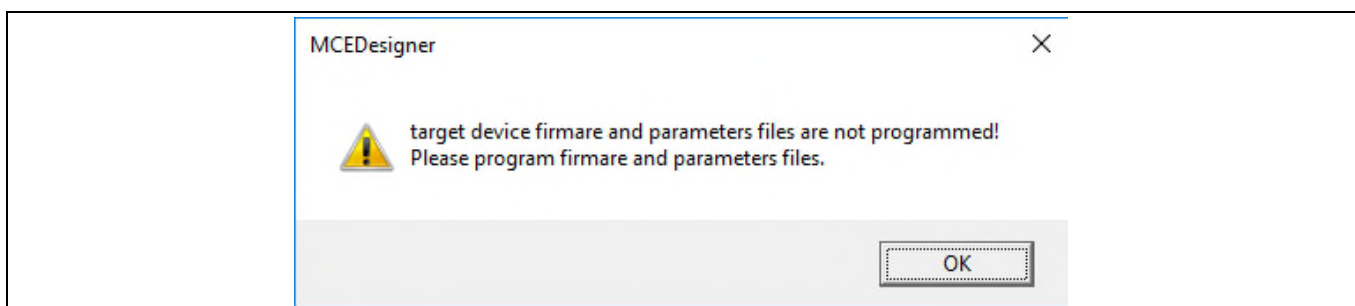

Figure 8 MCEDesigner warning message
8. In case of a blank IC: If the firmware has been erased from the IMC101T, a warning message will pop up (see Figure 8)—“Target device firmware and parameters files are not programmed! Please program firmware and parameters file.” See step 9 on how to obtain/program firmware and parameters.